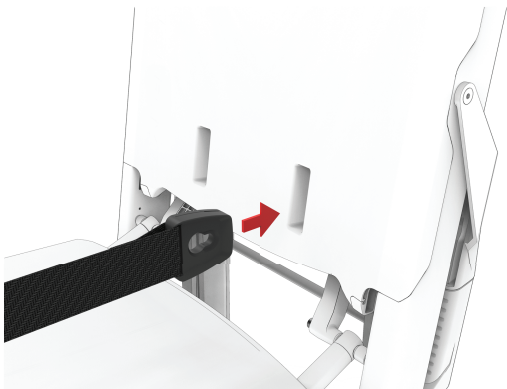
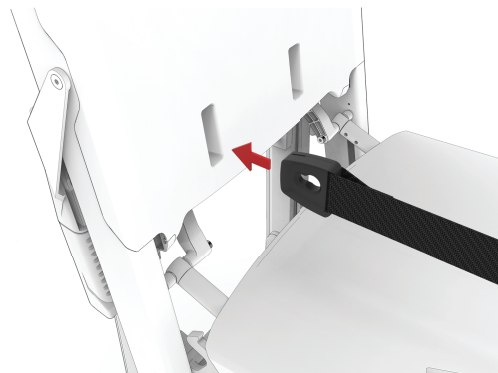

Figure 20 – Backrest clip, patient left
Figure 21 – Backrest clip, patient right
3. Insert the patient right backrest clip through the patient right hole in the backrest (Figure 20 and Figure 21).